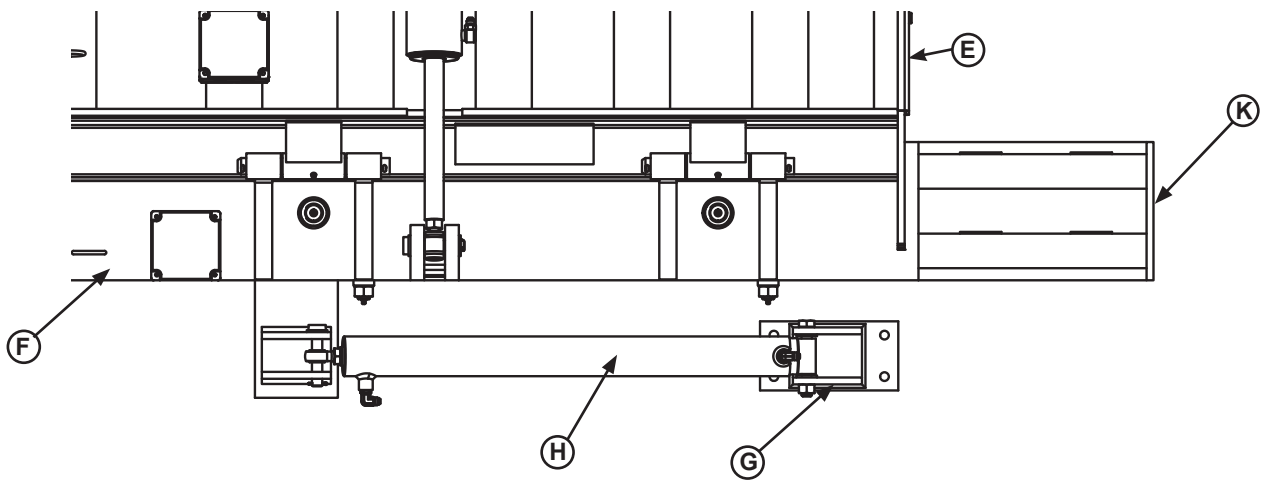

Figure 11
c. Weld on roller track stops (**K**, Figure 11) and proceed to step 8.